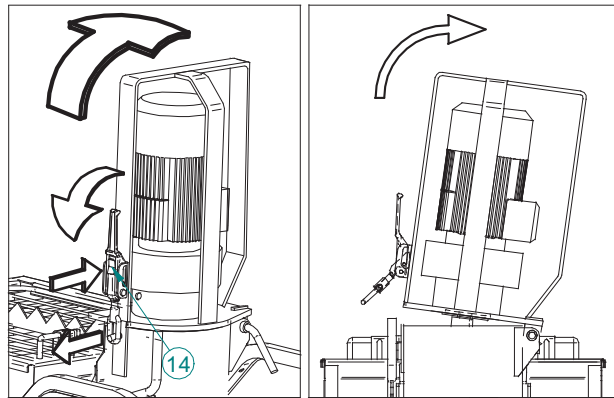

FIG.15
Disconnect the material pipelines from the delivery manifold. Detach the quick connector with safety device (ref.14) and open the mixing chamber (fig.15).